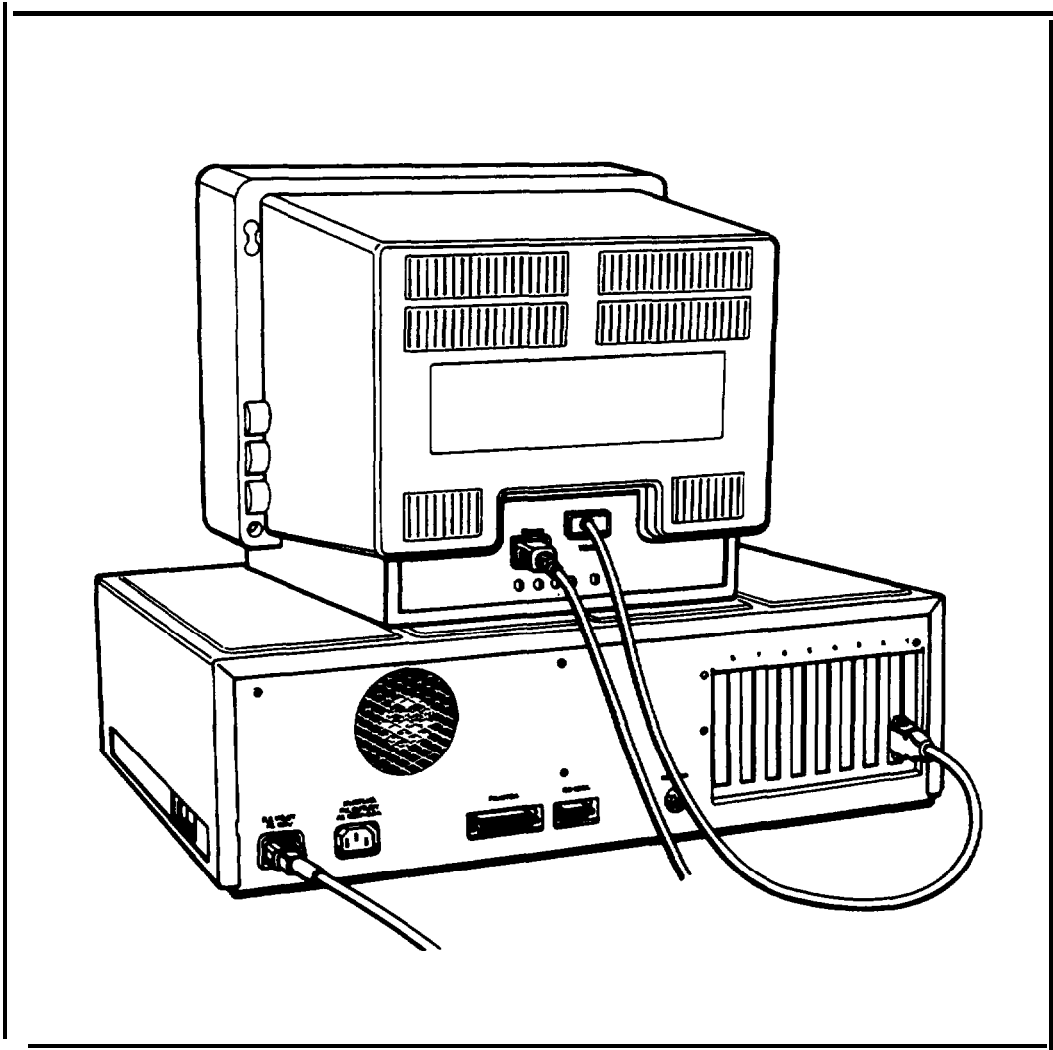

Figure 1-5. Connecting the monitor
2. Connect the appropriate end of the monitor cable to your monochrome or color / graphics card connector at the back of the main unit, as shown in Figure 1-5. If the plug has retaining screws, tighten them with a screwdriver.